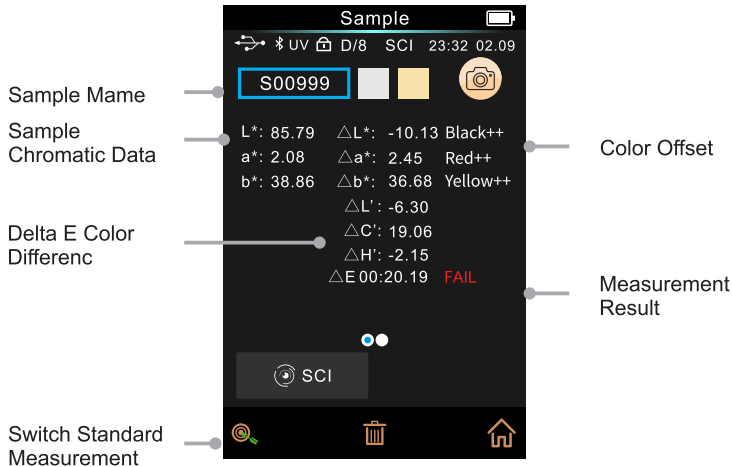
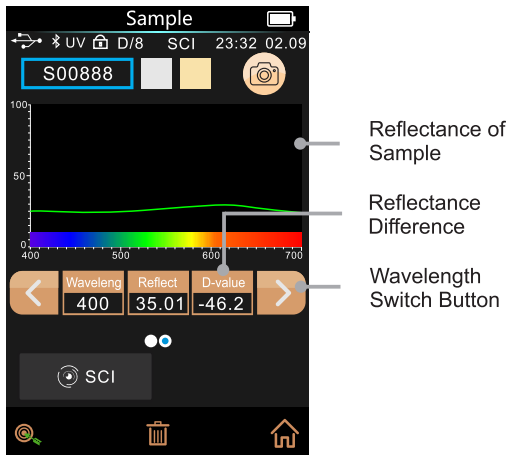

Figure 11 Sample Measurement
Figure 12 Reflectance of Sample Measurement
After testing the standard, click "Sample measurement" to enter Sample Measurement interface. It is the same steps with standard measurement. After measurement, it will display as shown in Figure 11 and in Figure 12.
- 9) Wavelength switch button: As shown in Figure 12, click  or  , the wave length and reflectance of the current sample will switch as range of 10nm interval.